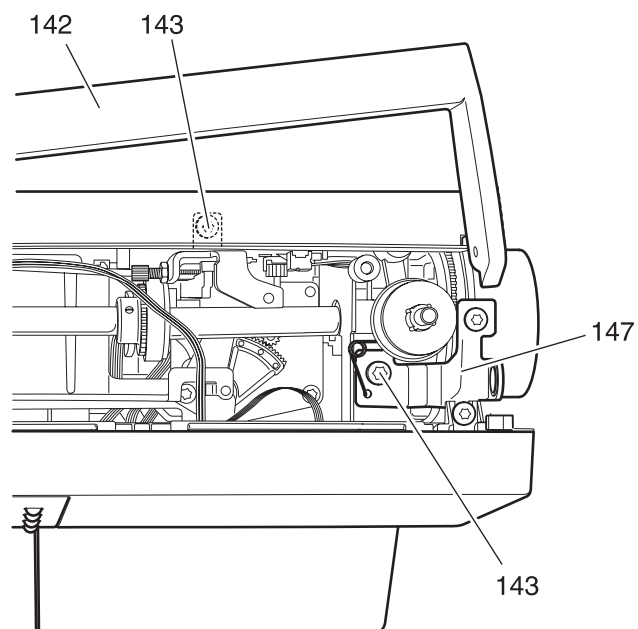

Fig. 92
- Place the entire bracket 147 on the housing shells (fig. 92).